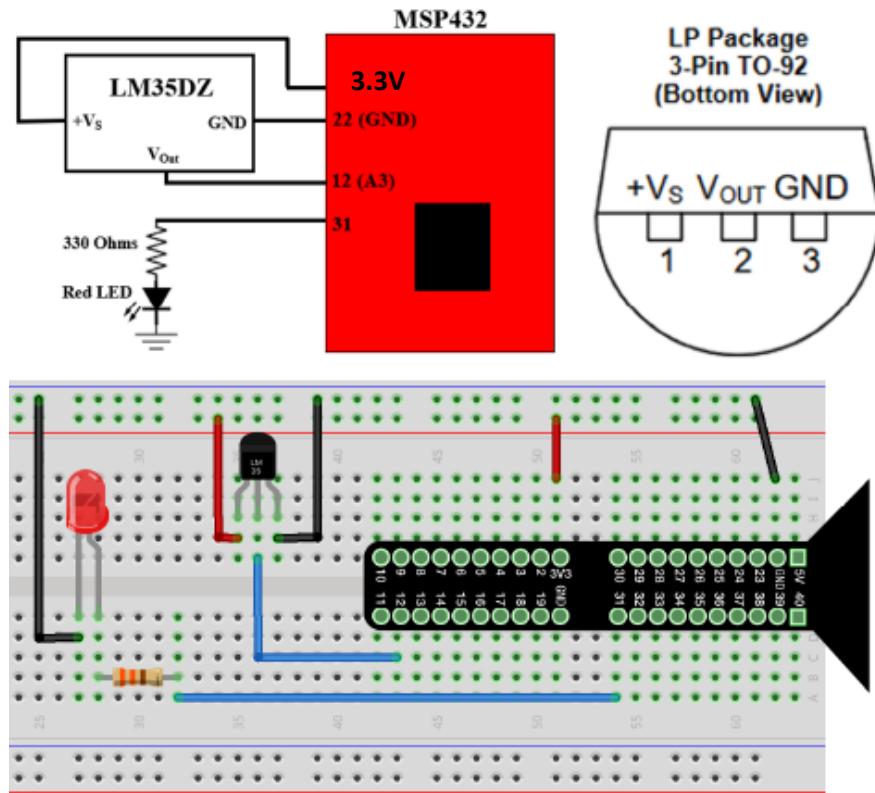

Figure 1. (A) Schematic of temperature sensor circuit.
1. First, construct the circuit shown below in Figure 1. The three terminal device shown is a LM35DZ temperature sensor and its pin layout is shown in Figure 1B. **WARNING:** the pin layout is if you are looking at the device from the bottom with the pins pointing at you. If you connect it backwards it will not work. You will know quickly because it will smell like something is burning and the device will get very hot quickly.